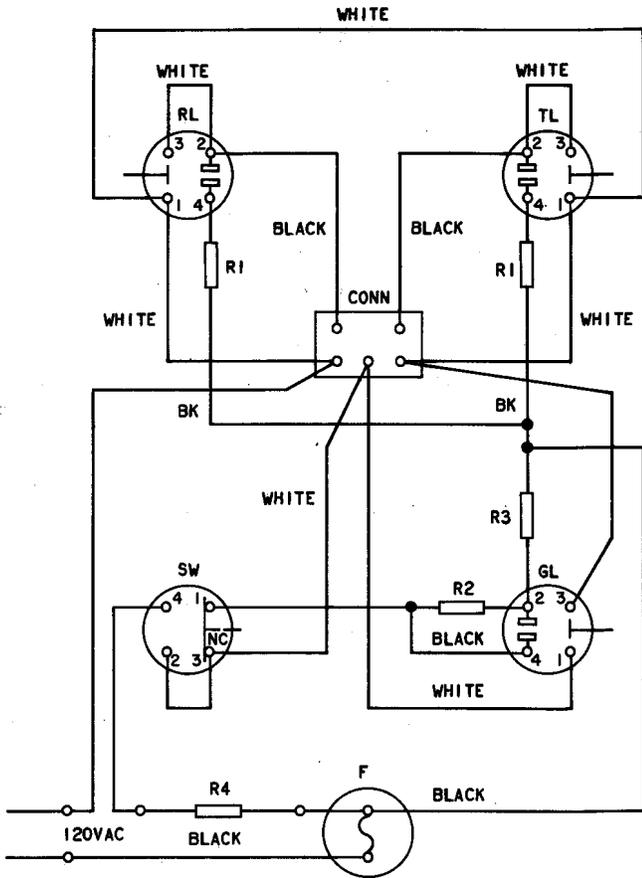
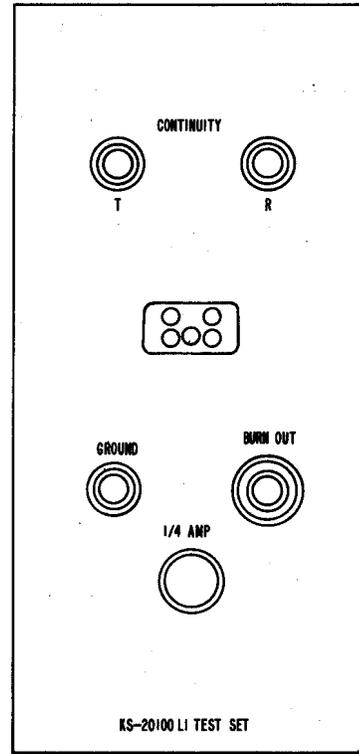
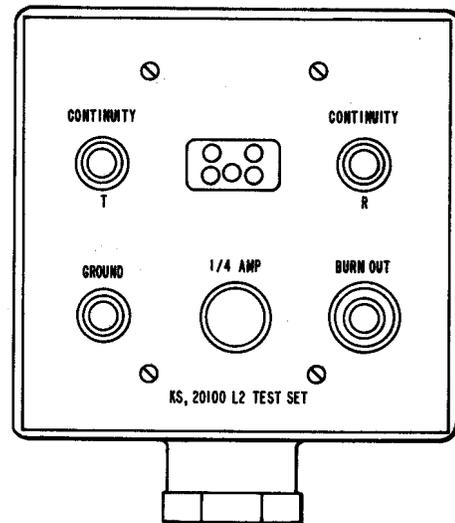

Fig. 1—KS-20100 L1 and L2 Test Set Schematic Diagram
Fig. 2—KS-20100 L1 Test Set
Fig. 3—KS-20100 L2 Test Set
**1.06** The circuitry of the KS-20100 L1 and L2 test sets is identical (Fig. 1). The L1 test set is an integral component of modular protector frames (Fig. 2). The L2 test set is housed in a conduit box for wall mounting (Fig. 3).